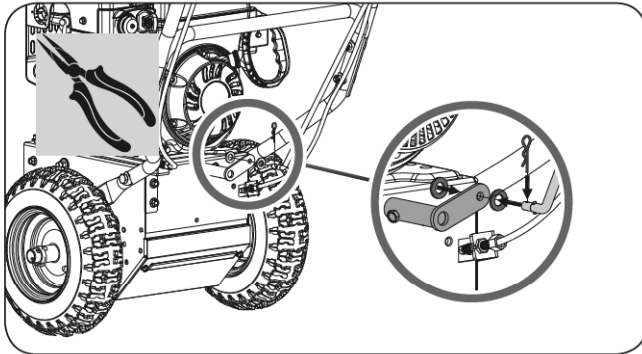

Figure 4a
1. Insert the shift rod with a flat washer into the shift arm. Secure with the other flat washer and clevis pin. (See **Figure 4a**)